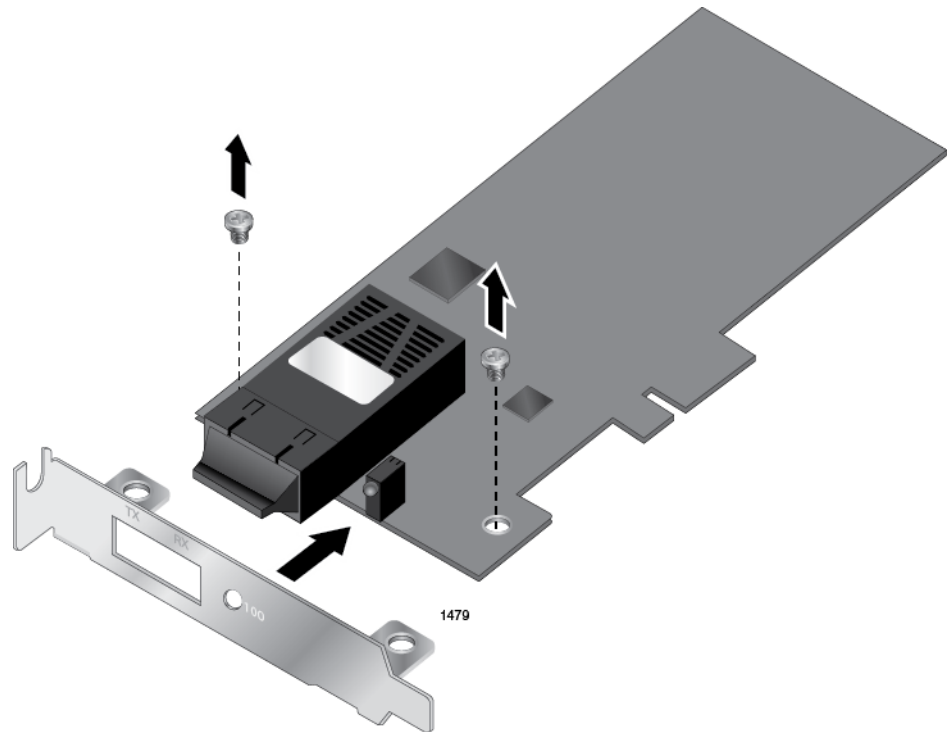

Figure 10. Removing the Low-Profile Bracket
1. Remove the screws that attach the bracket to the adapter card. See Figure 10.